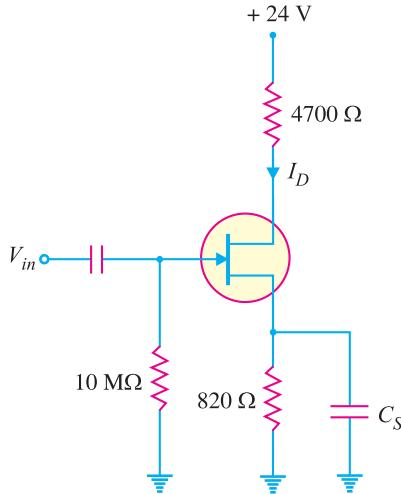

Fig. 19.64
3. In the *JFET* circuit shown in Fig. 19.64 if  $I_D = 1.9 \text{ mA}$ , find  $V_{GS}$  and  $V_{DS}$ .